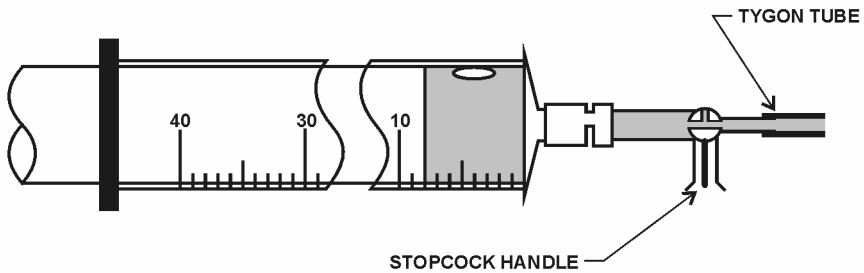

Figure 59 – Sampling Syringe (Filling).
- ◆ Slowly turn the syringe stopcock handle so that the handle points to the flushing port (figure 59). This closes the flushing and allows oil to flow into the sample syringe. Do not pull the syringe handle; this will create a vacuum and allow bubbles to form. The syringe handle (piston) should back out very slowly. If it moves too fast, adjust the small $\frac{1}{8}$ -inch valve until the syringe slows and hold your hand on the back of the piston so you can control the travel.